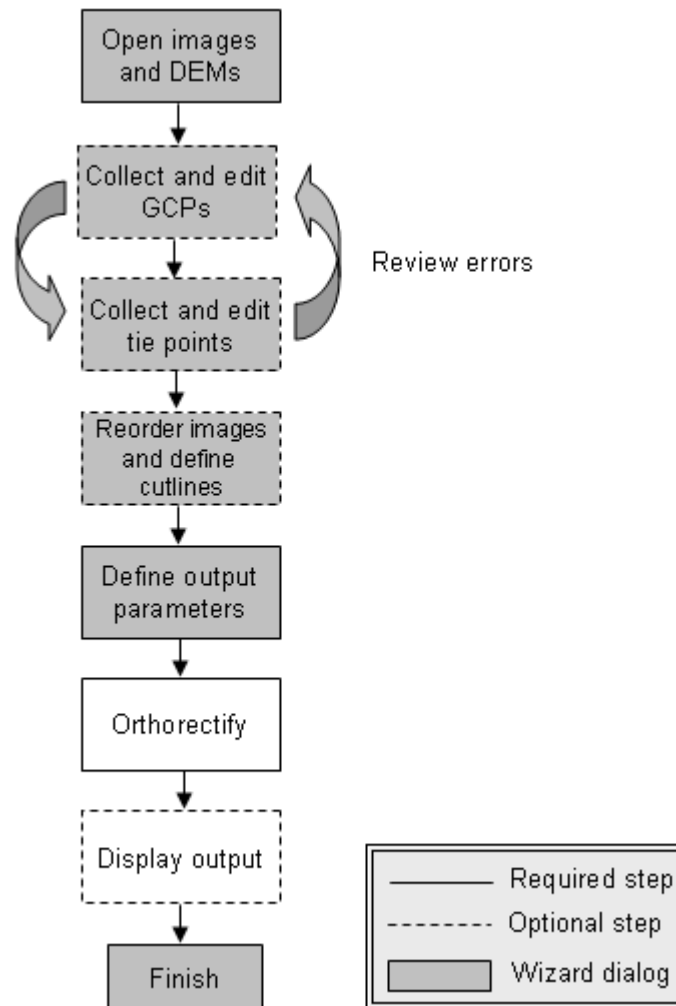

Figure 1: Orthorectification Module Workflow
Figure 1 illustrates a typical orthorectification workflow. The only required steps in the ENVI Orthorectification Module workflow are (1) select input images and DEMs, (2) build an adjustment model, (3) select output parameters, and (4) rectify the input image(s) to produce the output image. However, you will achieve the most accurate results by incorporating optional ground control points (GCPs) and tie points into the model, while iteratively reviewing the overall model error and editing points as needed to reduce the error. You can also optionally create and edit cutlines and set some basic parameters for the final output.
The shaded boxes in Figure 1 represent workflow steps that have an associated wizard dialog to guide you through the process.